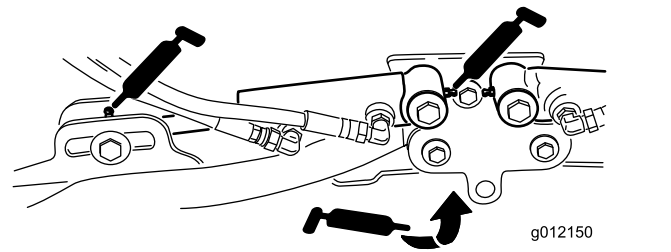

Figure 71
- Lift-arm pivots (1 each) (Figure 71)
- Cutting-unit lift-arm cylinders (2 each) (Figure 71)